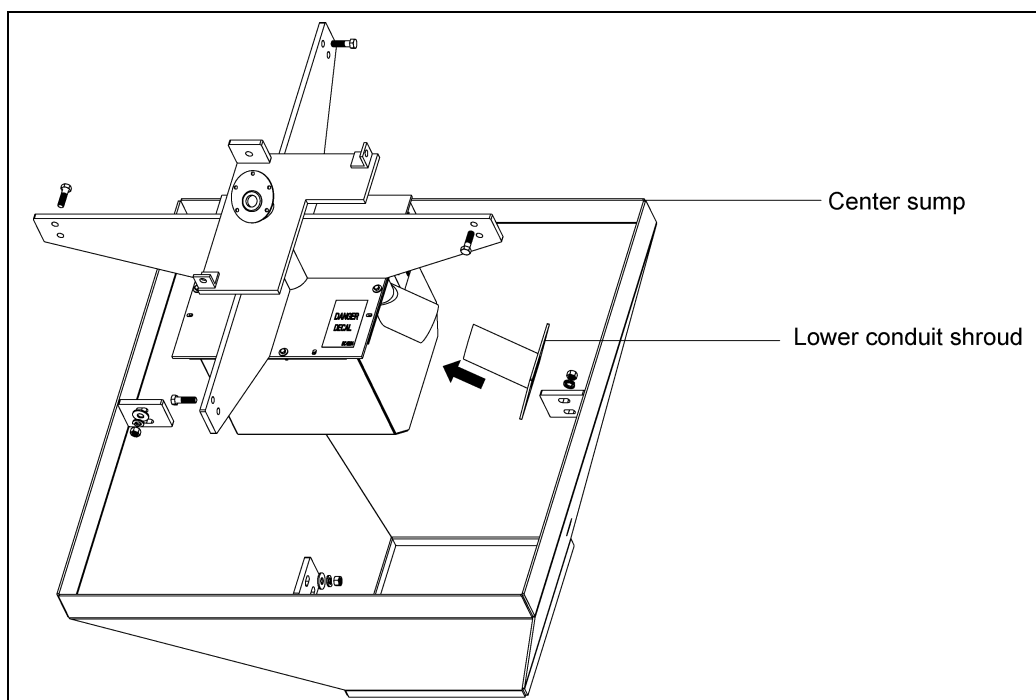

Figure 4B
2. As the sump should be installed into the floor, place the cross brace and slip ring shield into the sump so that the lower conduit shroud exits on the side that is intended to accept the slip ring wiring. As the assembly is placed into the sump, slide the lower shroud assembly onto the conduit shroud tube of the slip ring shield. (See Figure 4B.)